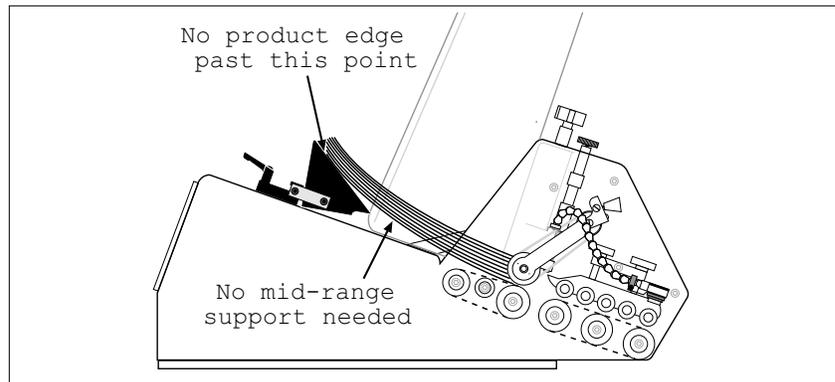

Figure 7-10. **Extended Narrow Wedge Setup**
**Ideal setup:** Adjust so wedge preshingles the bottom of stack against the curvature of gate assembly. Make sure edges of product do not extend back more than the mid-point of wedge. See Figure 7-10.